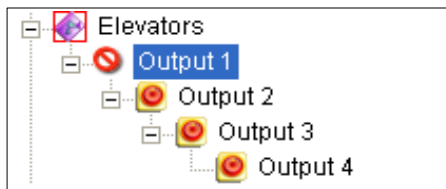
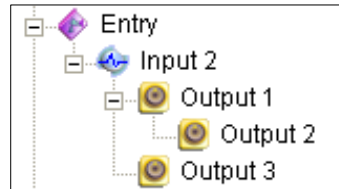

Figure 6-23
Figure 6-24
- In the Advanced I/O List, considering cascade triggers, you can only manually force the output at the top level, e.g. Figure 6-23. Other outputs at sub levels cannot be forced manually, e.g. Figure 6-24.